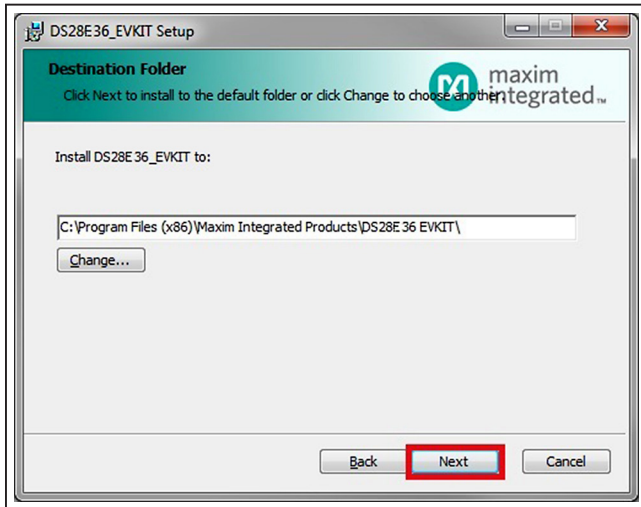

Figure 5. Install Folder Location
- 5) Click the **Next** button to install to the default folder (Figure 5).